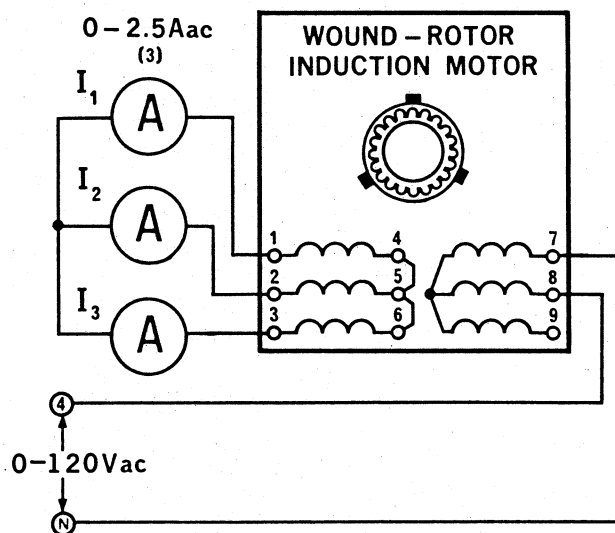

Figure 17-2.
3. Connect the circuit shown in Figure 17-2. Note that there is a current meter in series with each of the stator windings.